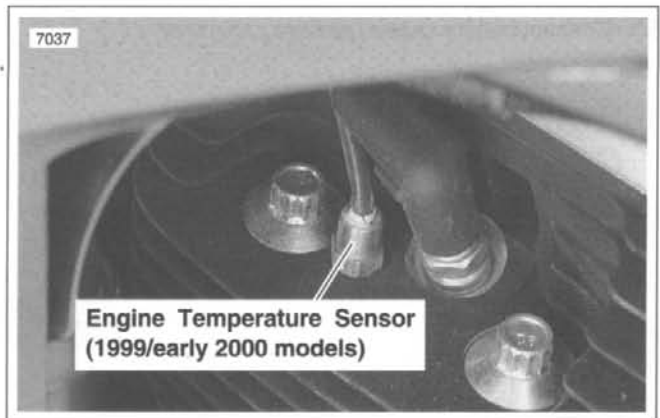

Figure 4-80. Engine Temperature Sensor Location
2. See Figure 4-80. Remove sensor from rear cylinder head near spark plug.
1. See Figure 4-80. Screw sensor into rear cylinder head.